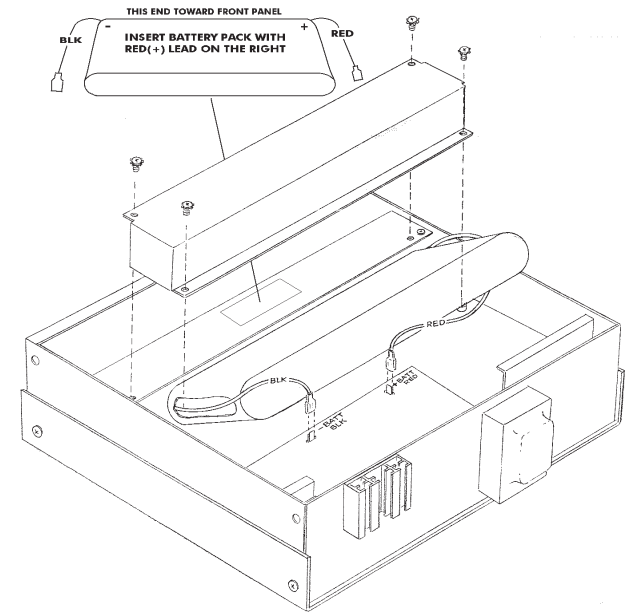

Figure 3
4. Note position of battery leads when installing the new battery-pack. See Figure 3.